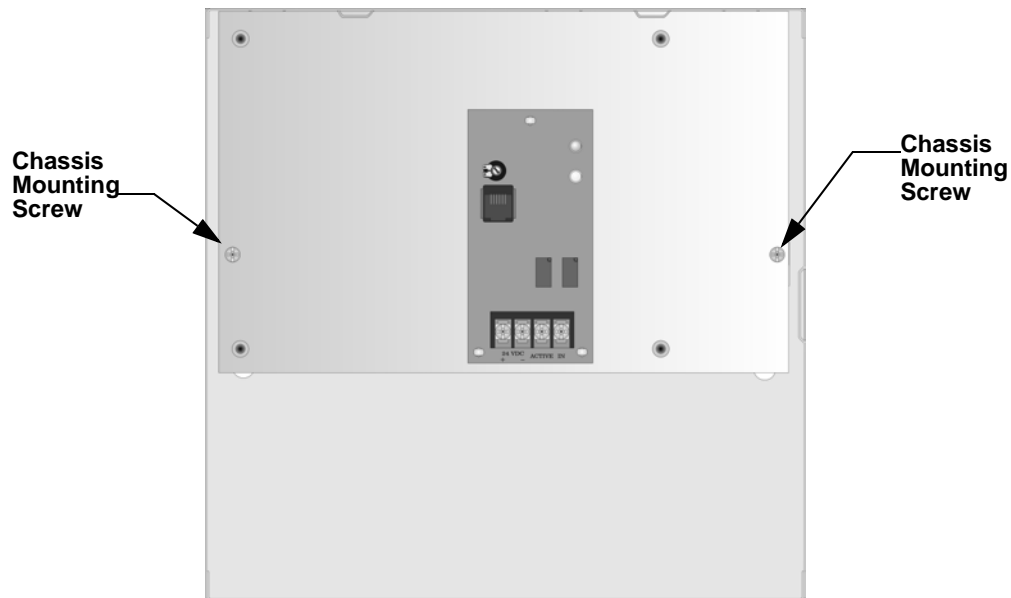

Figure 6-2 Remote Microphone Chassis Assembly
5. Remove the remote microphone chassis assembly by un-screwing the two chassis assembly screws. See Figure 6-2.